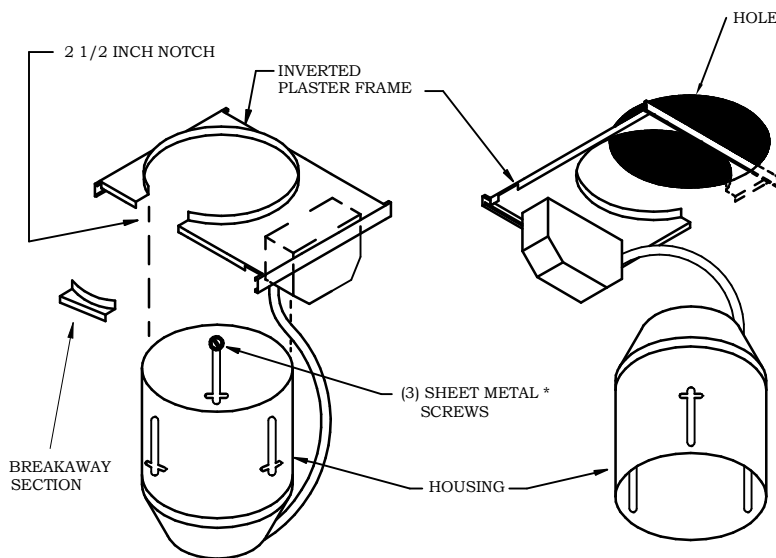

FIGURE 4
- 2.- INVERT PLASTER FRAME AND HOUSING ASSEMBLY. REMOVE THREE (3) SHEET METAL SCREWS FROM HOUSING AND SET ASIDE. REMOVE HOUSING FROM PLASTER FRAME, ALTHOUGH STILL CONNECTED BY CONDUIT. AS PER FIGURE 4, CUT 2 1/2 INCH WIDE NOTCH WITH TIN SNIPS IN PLASTER FRAME.